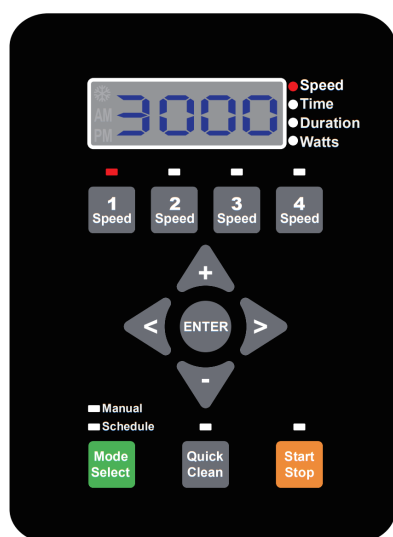

Figure 1 Setting Speed
2. Press the **"1"** button. The LED above the selected SPEED will begin to blink and the "Speed" parameter LED will blink while editing. See **Figure 1**.